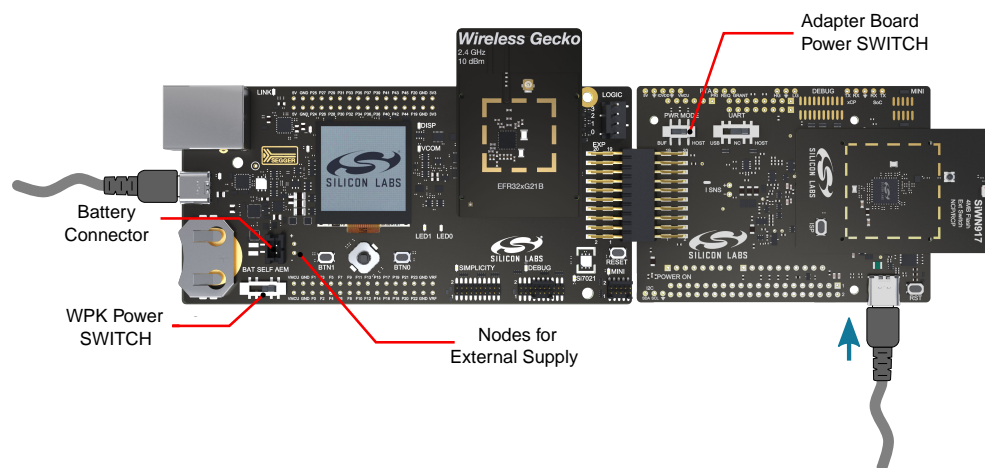

Figure 6.1. Example of current measurement set up with external meter
3. A USB cable must be connected to the USB connector on the Adapter Board, as shown in Figure 6.1 for example, to activate the on-board USB-UART bridge.